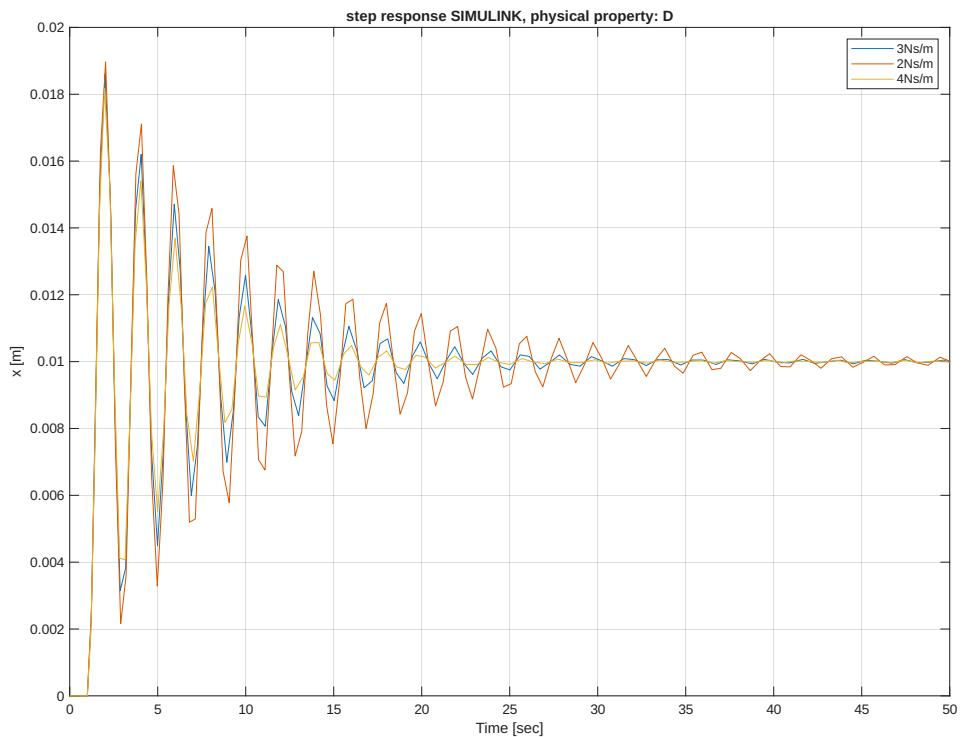

Figure 9: Step response with different values for the damper constant.
Influence of damper constant (D): As shown in figure 9, changing the damper constant influences only the amplitude, more specifically the rate of amplitude decrease over time. A reduced damper constant leads to a slower decrease of amplitude over time, while an increased damper constant leads to a faster decrease of amplitude over time. The oscillation interval is not being influenced by the damper value.